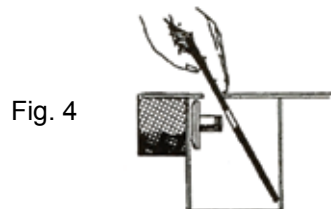

Fig. 4
- Slip the blade into the saw slot at an angle (Fig. 4) and slide it onto the shaft.